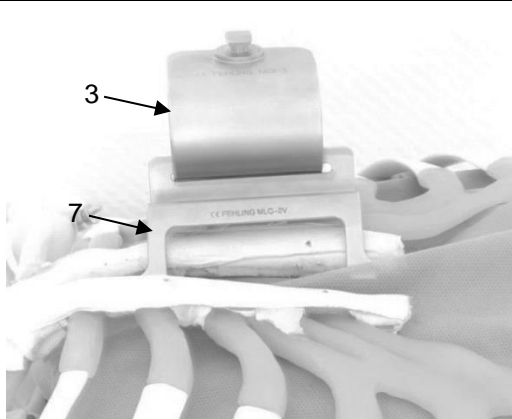

Fig. 10
1. Introduction of the IMA blade (3) in conjunction with the IMA retracting blade (7) into the sternal incision (Fig. 10).